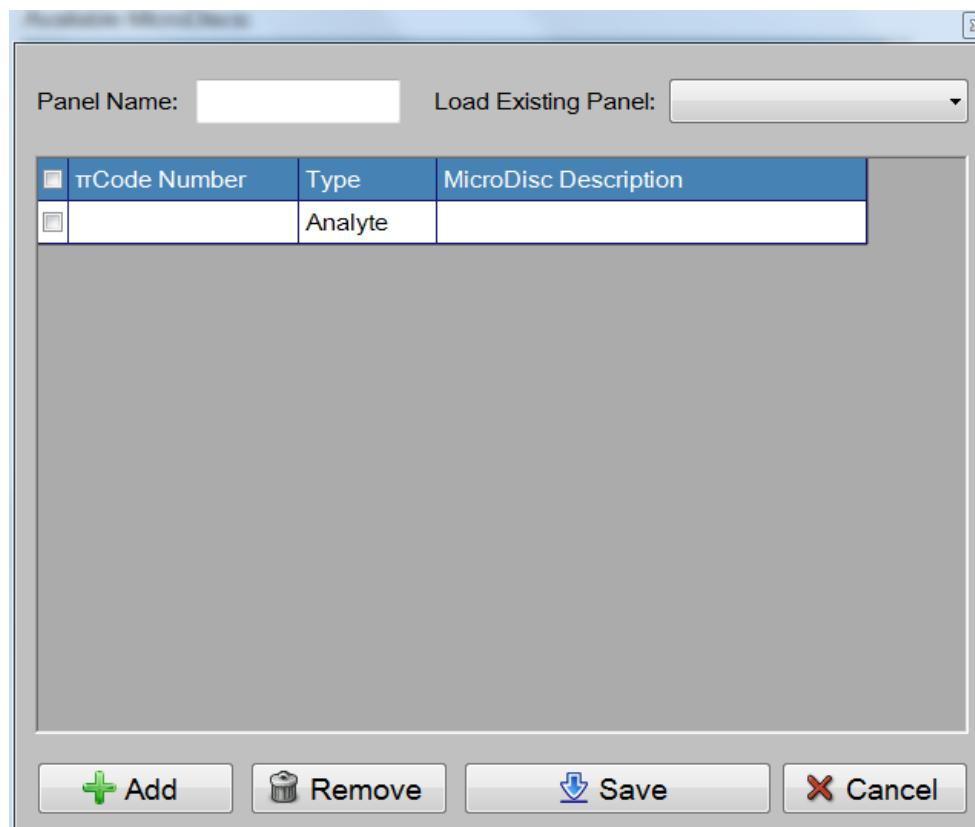

Figure 45. Create New Panel
- Step 17. Click on if user wants to create a new panel, panel setting window will be shown as Fig. 45.